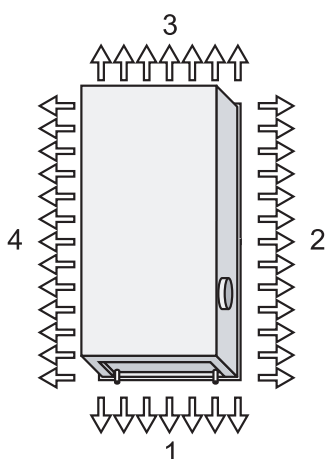
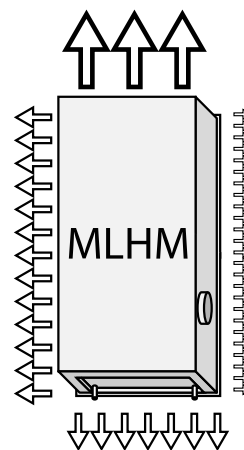

Figure 3. Top view nozzle setting double-module unit side 1-4.
Figure 4. Example of nozzle setting for a double-module unit - MLHM.
* All four sides of the unit can be adjusted individually. The description of the nozzle setting follows the order shown in figure 3. See example shown in figure 4.